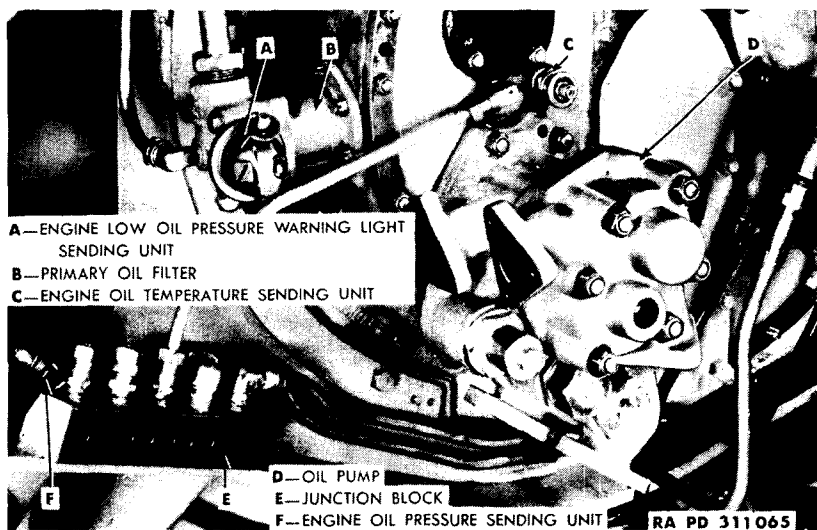

Figure 76 — Junction Block and Oil Pump
a. The engine is lubricated by a full pressure dry sump system. Oil is circulated by a gear type oil pump (fig. 76) which returns oil that collects in a sump (fig. 11) to a supply tank, and circulates oil from the supply tank to an air cooled oil cooler (fig. 1), filters, and engine parts.
a. **Description.** The primary oil filter (fig. 76) is located in supercharger rear housing. The filter is of the metallic type with a spring loaded relief valve which opens at 25 pounds per square inch pressure. The filter elbow carries the engine oil pressure indicator and engine oil low pressure warning indicator sending units.
a. The engine is cranked by means of two 24-volt cranking motors. For cold weather starting an air heater mounted in intake manifold of engine supplements starters. A vibrator coil supplies high tension current to spark plug of heater. Fuel to heater is controlled by a magnetic valve. The engine is equipped with sending units for oil temperature, oil pressure and fuel pressure indicators, and a low oil pressure warning light (fig. 76).